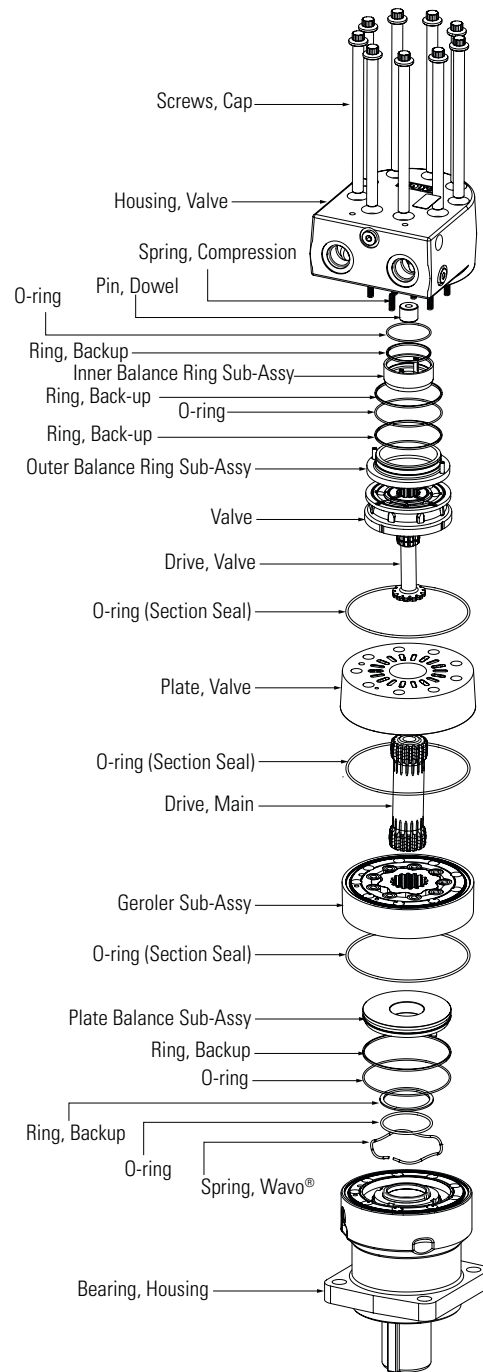

Figure 8A
- 8.0.2 Remove the 9 cap screws and disassemble the motor in the vertical position as shown in Figure 8A and 8B.